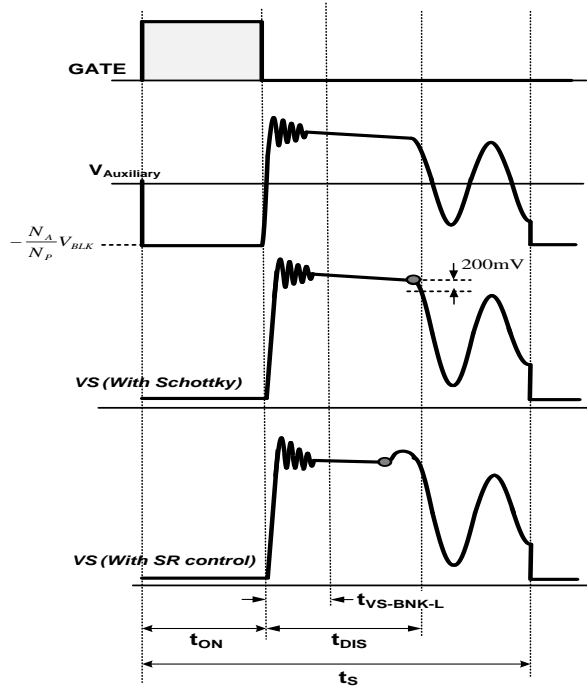

Figure 26.VS sampling with Diode or Synchronous Rectifier
VS voltage which is reflected auxiliary winding and proportional to output voltage. Therefore, It is possible to regulate output voltage by sensing VS voltage. Figure 26 shown VS sampling waveform with secondary rectifier that using Schottky diode or Synchronous Rectifier (SR).
In order to regulate output voltage in accurately range, FAN105A build-in VS sampling methodology for signal like Figure 26 showed, FAN105A samples and hold VS voltage
A leading edge blanking time($t_{VS-BNK-H/L}$) start from primary switch turned off, that is caused by the resonance of leakage inductance and parasitic capacitance at transformer. In order to avoid VS sampling procedure get impacted by that ringing, the oscillation should be settle before settle down before $t_{VS-BNK-L}$ ended as Figure 26 showed. t_{DIS} is secondary rectifier current discharging time which recommend better design is longer than $t_{VS-BNK-H}$ during mimum on time controlling. t_{DIS} is predictable by following formula: